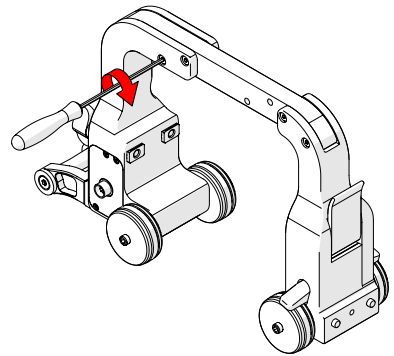

Fig. 26 - Tighten shoulder screws
3. Tighten the two shoulder screws with the supplied 2 mm hex driver (Fig. 26).